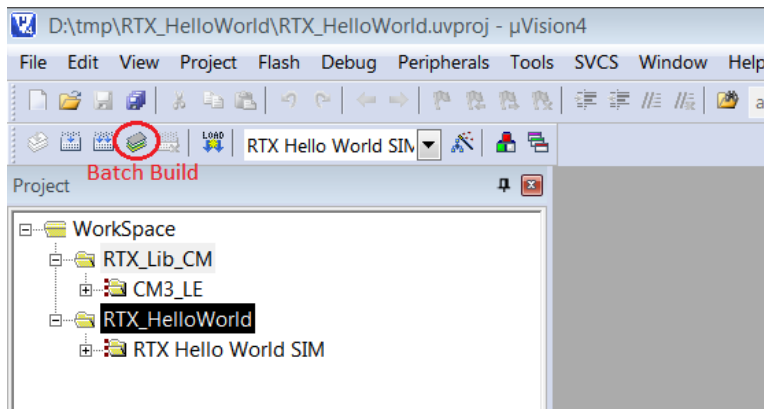

Figure 1.23: Keil IDE: Workspace with Two Projects
4. Two projects appear under the Project Window (see Figure 1.23). Click the Batch Build button (see Figure 1.23) to bring up the Batch Build window.